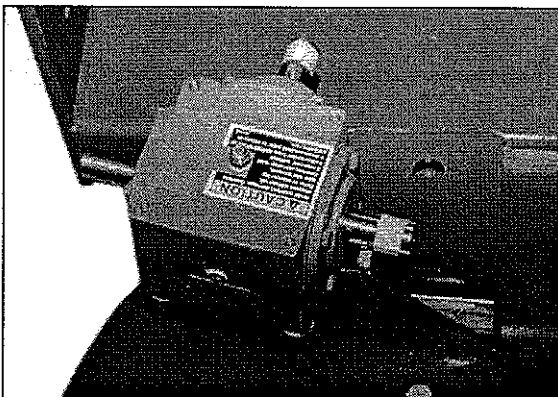

figure 21
1. Remove drive shafts and the shield from the gearbox (figure 21).